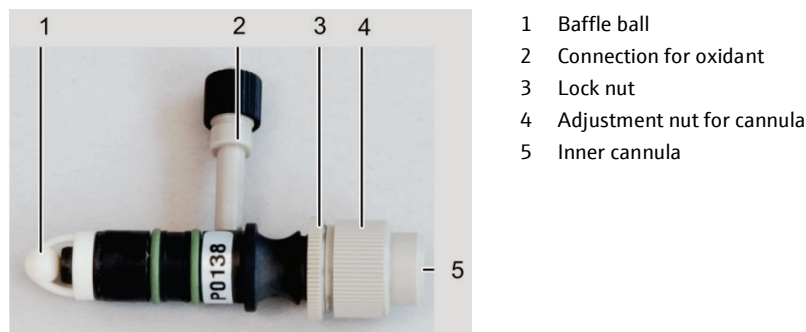

Fig. 65 Components of the nebulizer
Loosen the lock nut (3 in Fig. 65). Adjust the depth of the cannula (4 in Fig. 65) with the adjustment nut.
8. After the adjustment, secure the adjustment with lock nut (3 in Fig. 65).